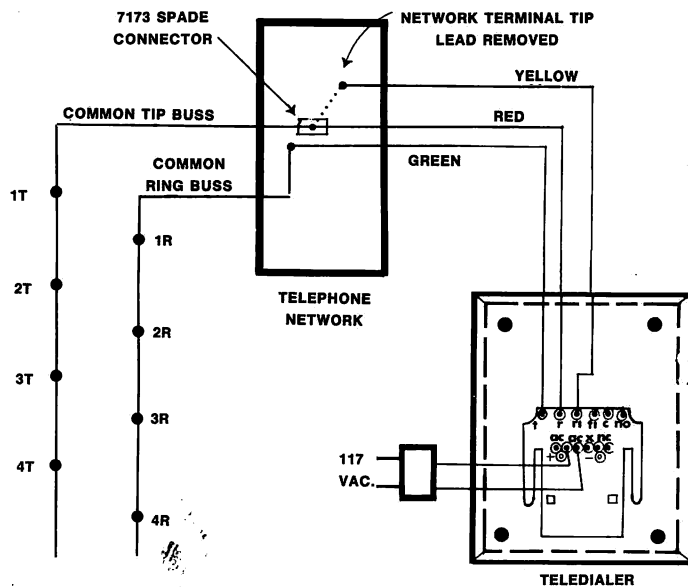

FIGURE 4
Normally, the TeleDialer 32T line cord is connected at the station connecting block, as shown in Figure 3. With multi-line sets, however, connection should be made at the appropriate terminals within the telephone instead of at the connecting block (Figure 4).
With multi-line or key system telephone sets, the TeleDialer connections should be made within the telephone set. Use Figure 4 as a guide and proceed in the following manner.
(B) As shown by the dashed line of Figure 4, the Tip bus (or common tip lead) that was connected to the network terminal has been removed from that terminal and connected with a 7173 spade connector to the Red lead coming from the TeleDialer (R) terminal. The Yellow TeleDialer lead (R1) is now connected to this network terminal. The Green TeleDialer lead is then connected to the Ring Bus spade terminal of the network.
NOTE: (B) and Figure 4 show the preferred method of connection to most telephone sets. (In series with the Tip of the Line.)